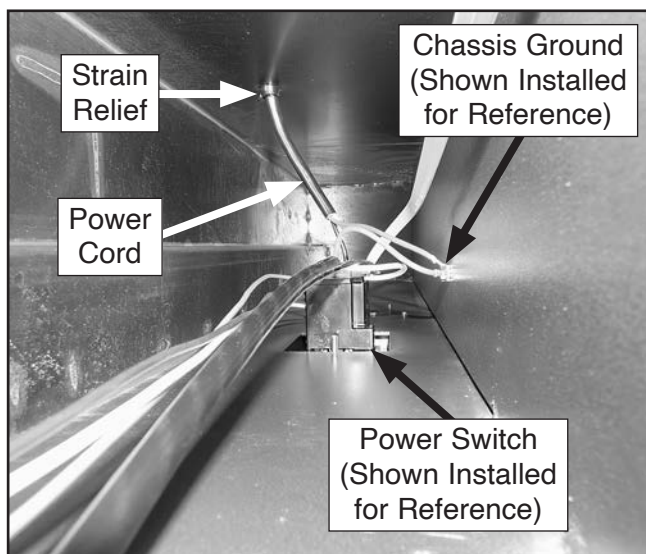

Figure 3. Location of power cord components (viewed from below in machine interior).
4. Remove power cord and strain relief (see **Figure 3**).